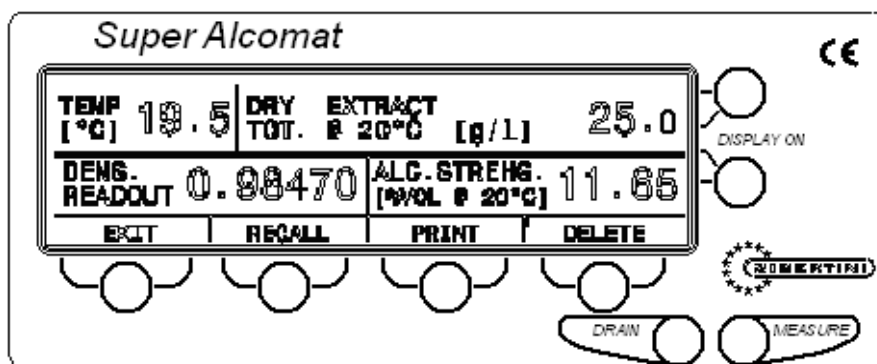

Fig. 14
- f- press [MEASURE]; the display shows temperature, specific gravity read and Alcoholic Strength by Volume of the distillate, together with the value of the total dry extract in g/l of sucrose (Figure 14);